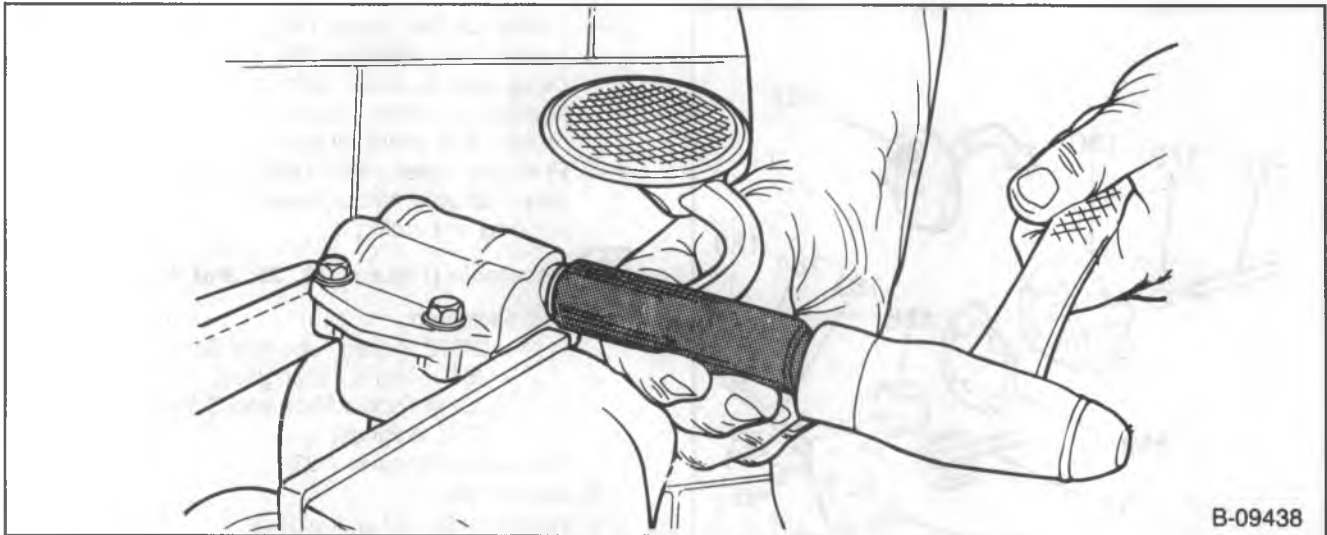

Figure 36—Installing the Oil Pump Pickup Tube and Screen
8. Pickup screen and pipe (187) (if removed) (figure 36).
9. Oil pump driveshaft (178) and connector (179).